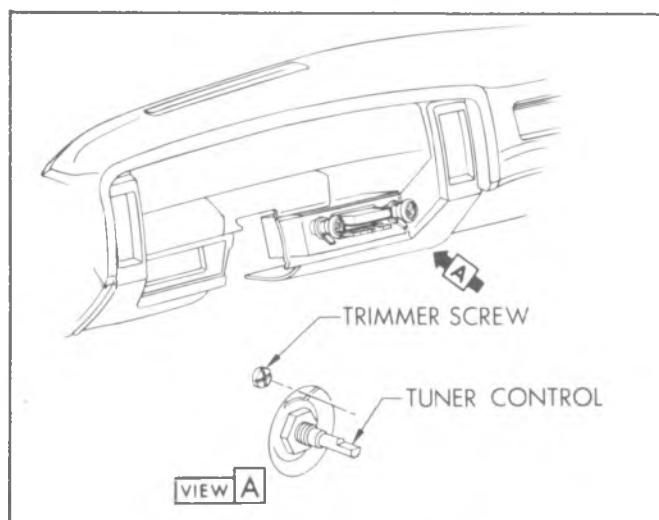

Fig. 9-2R--Trimming Radio
6. Adjust antenna trimmer screw ($\pm 2^\circ$ screw rotation) until maximum volume is received (fig. 9-2R).